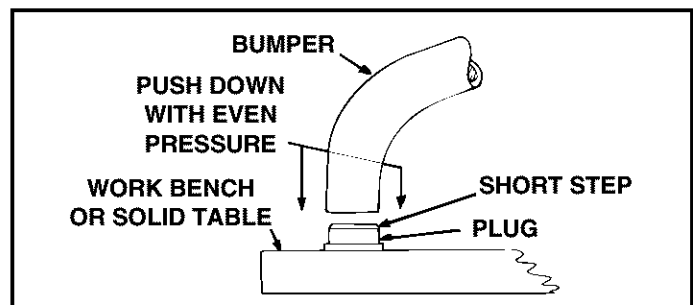

FIGURE 1
- (2) 9/16" Open End or Box Wrenches
- Place plug on a work bench or solid table. Set end of bumper onto plug until it rests on short step of plug. Using even pressure, push down on bumper until end of bumper slips over plug. See figure 1.